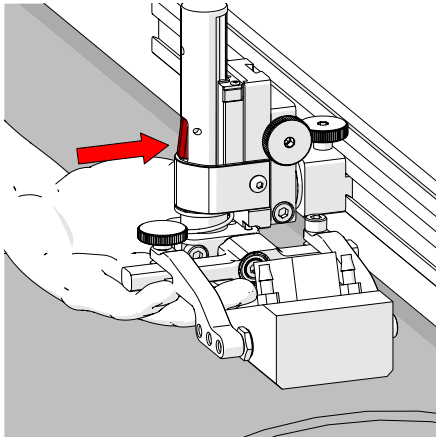
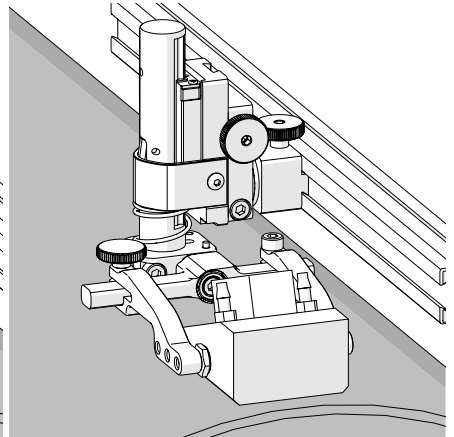

Fig. 134 - Press latch button
Fig. 135 - Lower toward scan surface
4. Lift the yoke slightly and press the latch button (Fig. 134), then slowly lower towards the scanning surface to apply spring pressure to the wedge (Fig. 135).